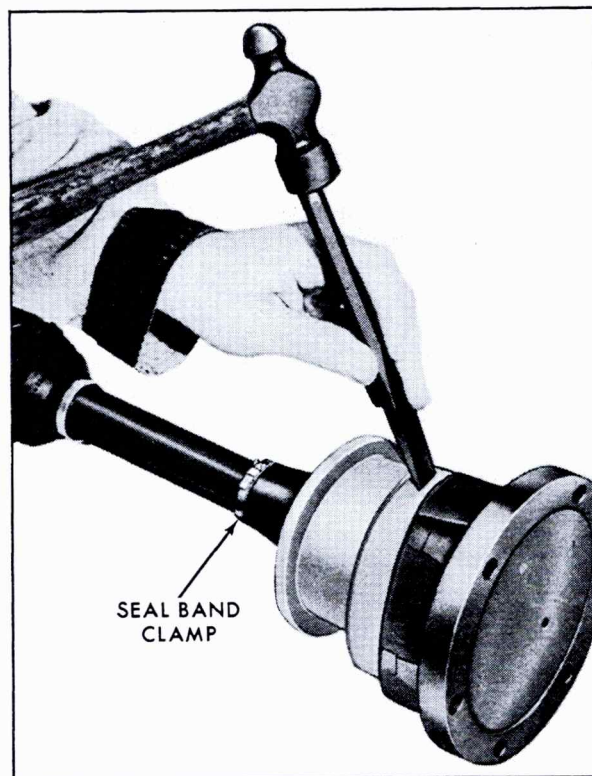

Fig. 3-69 Installing Seal Adapter On Joint Housing
14. Position seal adapter over lip on joint housing and stake as shown in Fig. 3-69.
15. Install seal clamp band on small end of seal, Fig. 3-69. Proceed as follows: